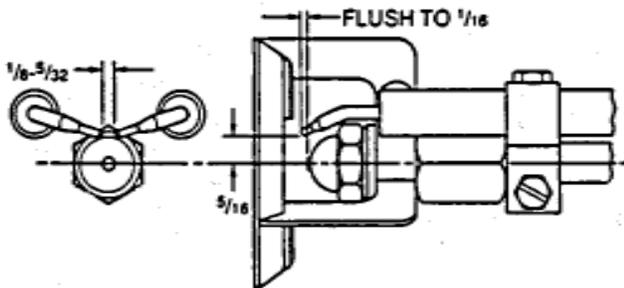

Figure 10: Electrode Settings
- j. Inspect and measure burner electrodes. Refer to Figure 10 for proper electrode setting. Readjust electrode setting to the proper dimensions if necessary.
- n. Close igniter, rotate and tighten two (2) igniter latching screws.